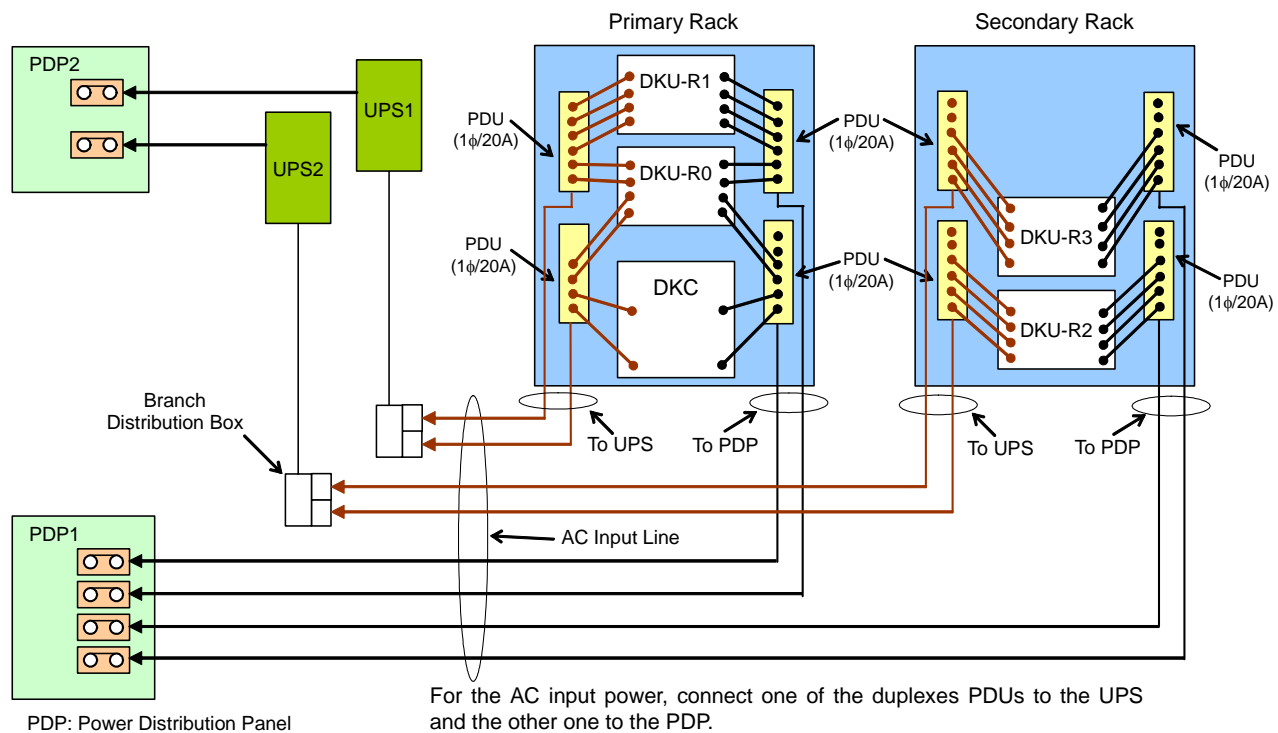

Figure 2-10 Power Connection through UPS
- **Power connection through UPS.** Figure 2-10 shows the power connections when half of the AC input lines are connected to an uninterruptible power supply (UPS), and the other half of the AC input lines are connected directly to the power facility.